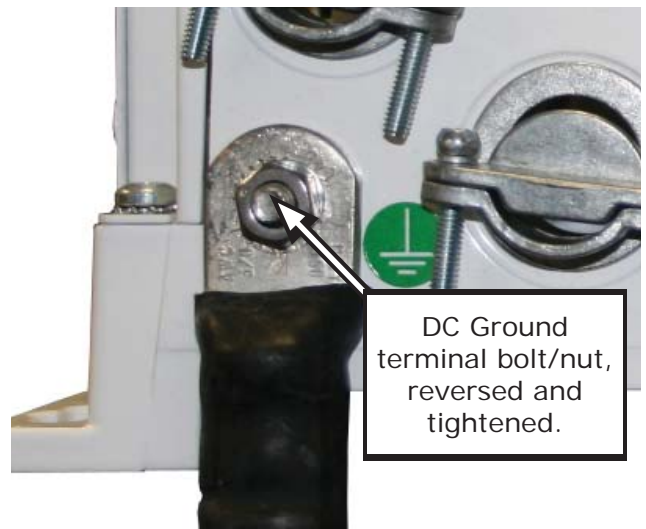

Figure 2-23, Large Ground Wire Connected to MS Series
4. Reverse the removed bolt and place it back in the chassis hole to attach a correctly sized ground cable to the MS Series chassis as shown in Figure 2-23.